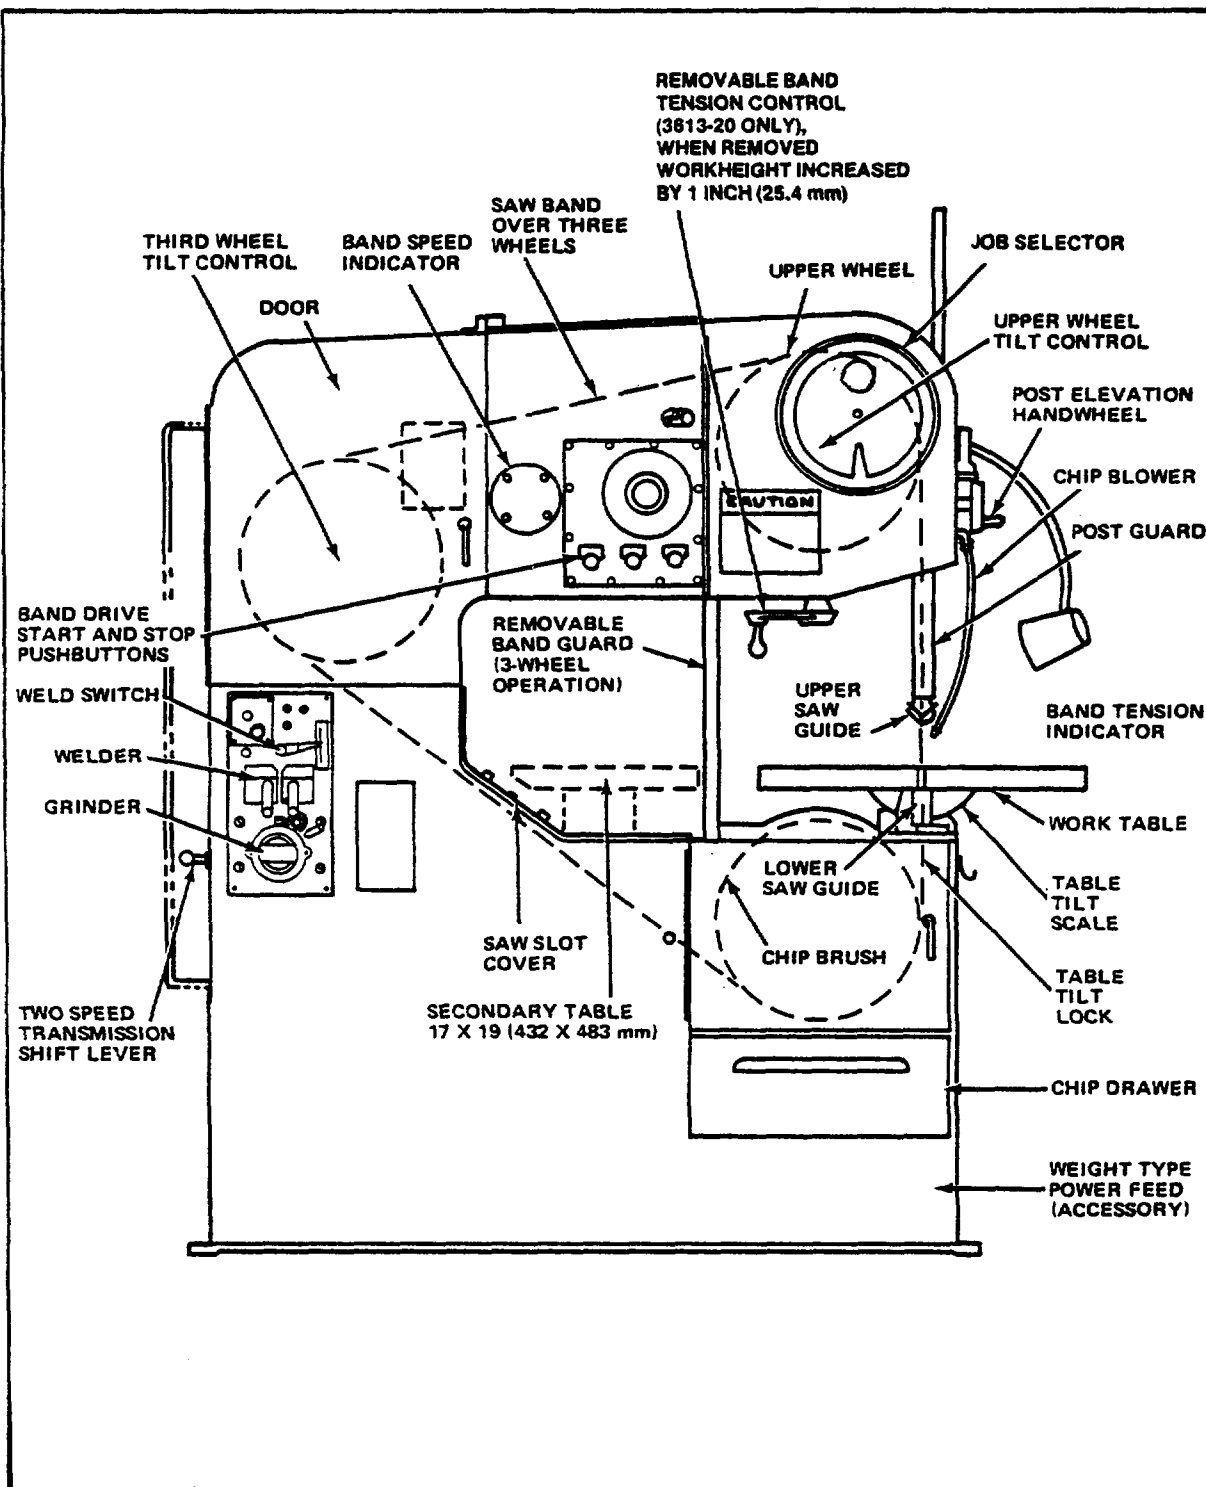

FIG. 4. CONTROLS AND FEATURES, FRONT VIEW
- (1) Turn dial until material to be cut is directly below cover window. See Fig. 4.
- (2) Locate recommended pitch and blade type listed next to work thickness.
- (3) Locate correct blade width on a radius chart if radius is to be cut. Determine band width, pitch and tooth type. Refer to a saw blade specification table to determine gage and set.
- (4) Locate recommended band speed for work thickness and blade type.
- (5) Note recommended feed force to be used with work thickness.
- (6) Note recommended coolant application method. (Your machine may be equipped with accessory spray or drip coolant applicator, or both).